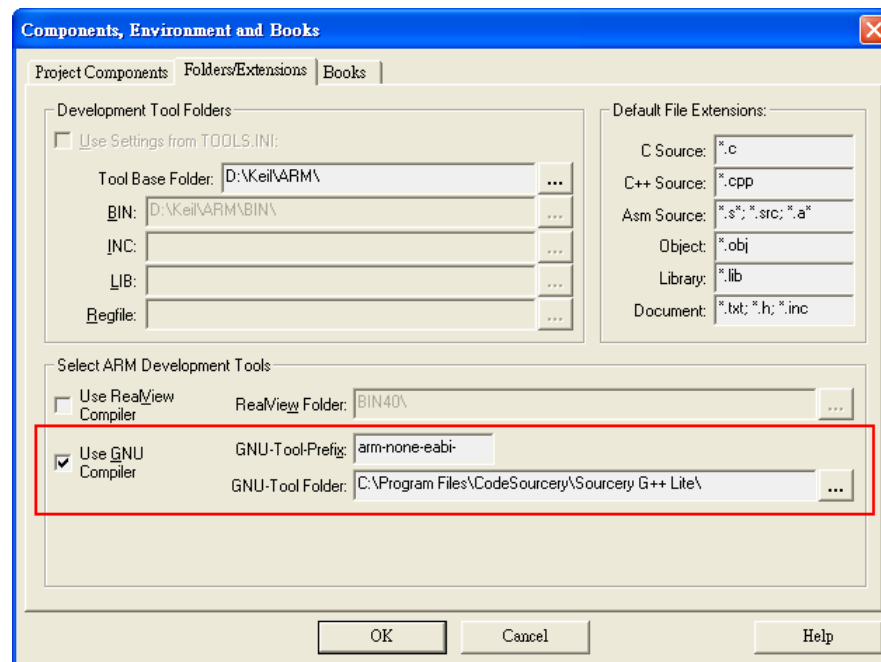

Figure 48. Folders/Extensions Setup Change
- Click the “Folders/Extensions” tab, change the setting as shown in Figure 48. If “Use GNU Compiler” is checked, a warning message will be displayed to notify that all the options in the project will be reset to their default values. Reconfirm that the project has already been backed up and press “Yes” to continue. Select or modify the installed paths of μ Vision or Sourcery G++ if required.